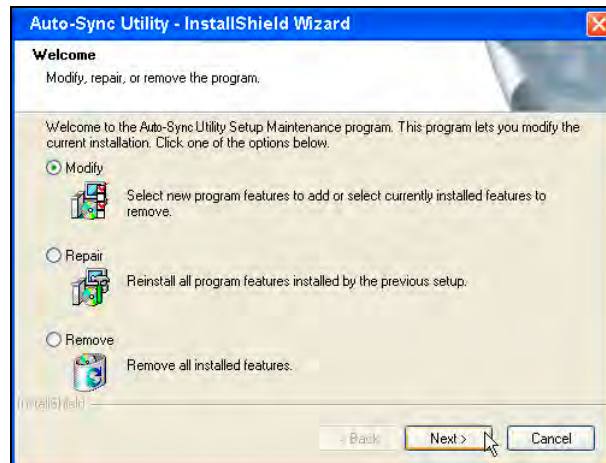

Figure 5-2. Setup Maintenance.
*NOTE: The following Setup Maintenance screen (see Figure 5-2) only appears if you already have the Auto-Sync Utility installed on your PC. The Setup Maintenance program allows you to **Modify**, **Repair**, and **Remove** the program. In most instances you probably will not see this screen.*